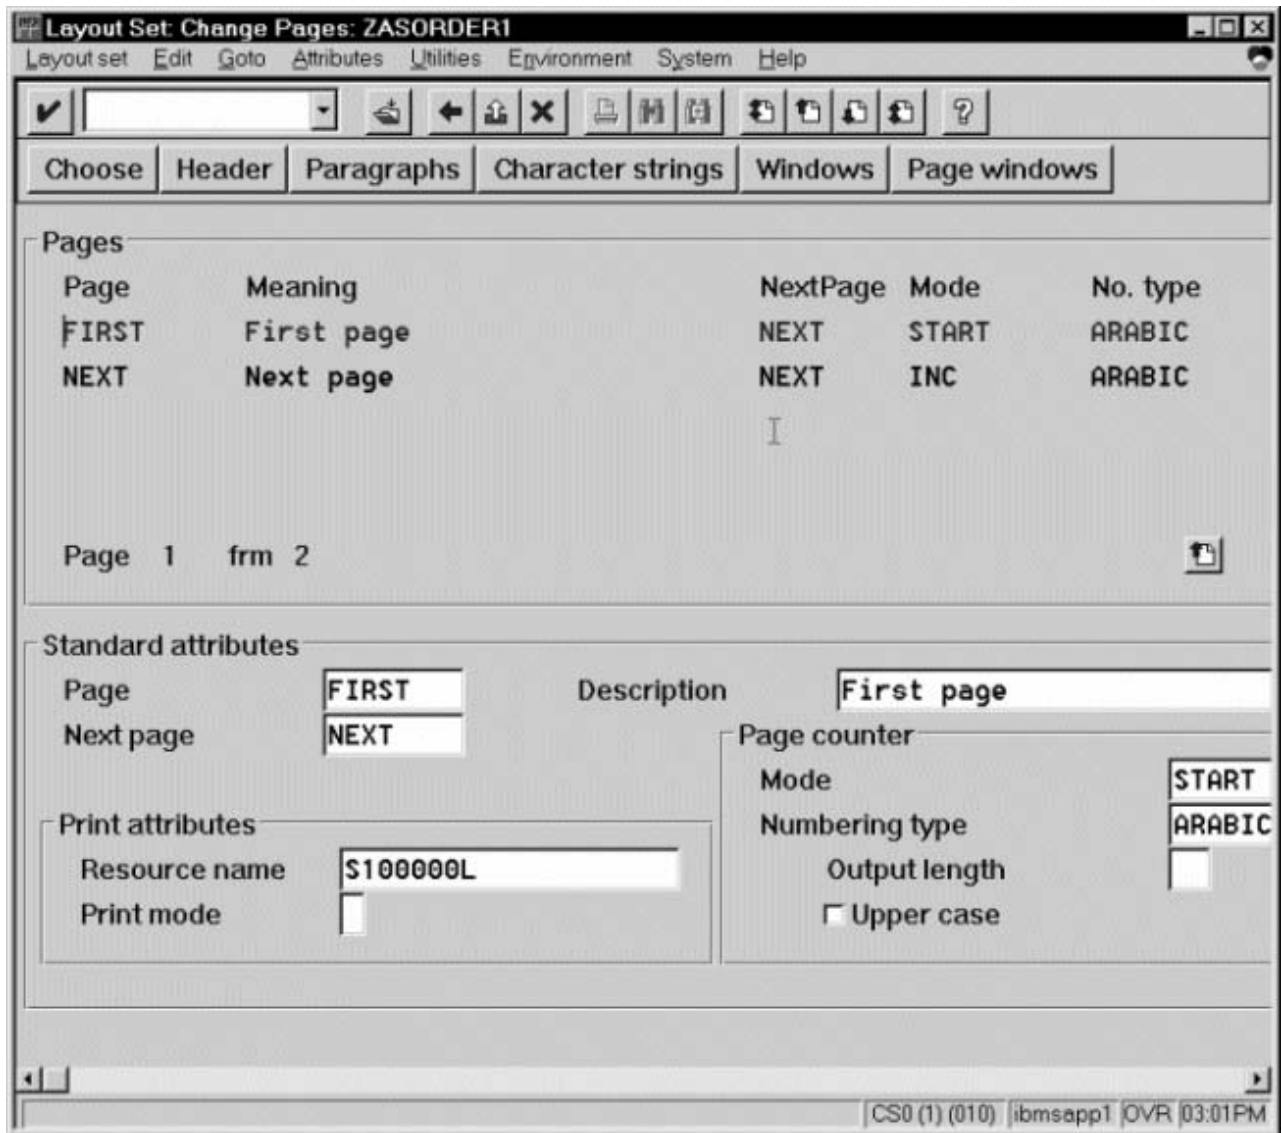

Figure 60. Layout Set Change Pages window, first page
3. From the first page of the job, double-click so that it is highlighted and fill in the **Resource Name** field (under the Print Attributes pane) as shown in Figure 60 on page 141: